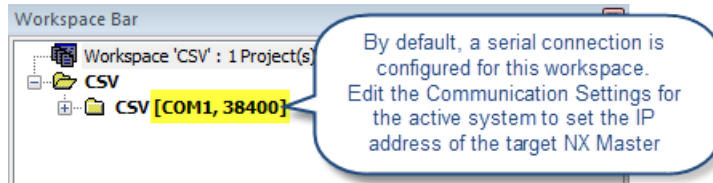

FIG. 177 NetLinx Studio 4 Workspace Bar - Conference demo (default communication settings)
- a. Select **Settings > Active System Communication Settings** to open the *Communication Settings* dialog. Use the options in this dialog to establish a connection to the target NX Master. Note that by default, the workspace is configured to use Serial communication (FIG. 177):